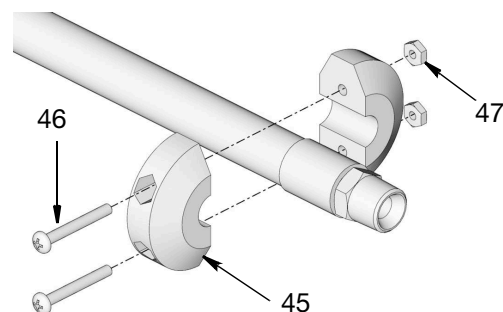

FIG. 18
- Remove dispense valve, nuts (47), screws (46) and ball stop (45) from end of hose (FIG. 18).
4. Remove dispense valve, nuts (47), screws (46) and ball stop (45) from end of hose (FIG. 18). Cap end of hose (if needed) to prevent fluid spills.